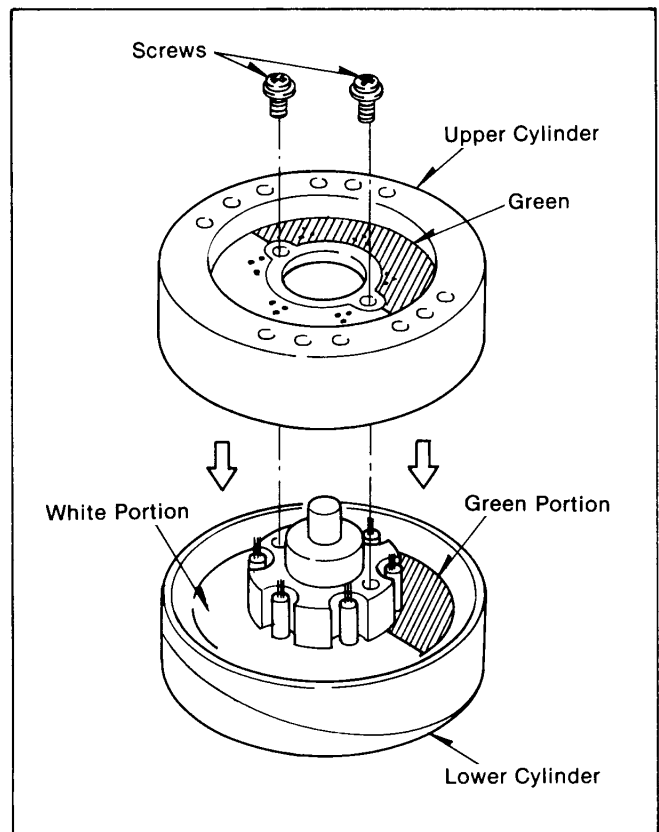

Figure M7
2. The Upper Cylinder unit can be reinstalled by reversing the removal procedure. However, when Upper Cylinder is installed, be extremely carefully so that white portion of P.C. board of Upper Cylinder correctly matches the white portion of bottom cylinder as shown in Figure M7.